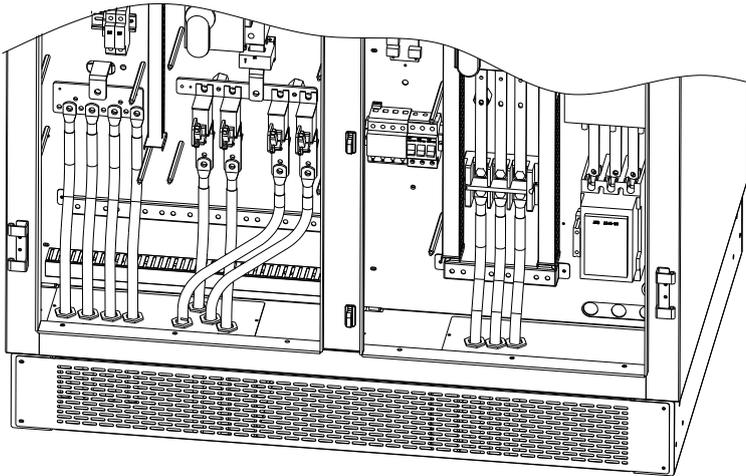

Figure 3-10 Routing from round holes on the two bottom covers
- (g) Put the cables through steel conduits to connect to the inverter, as shown in Figure 3-10.